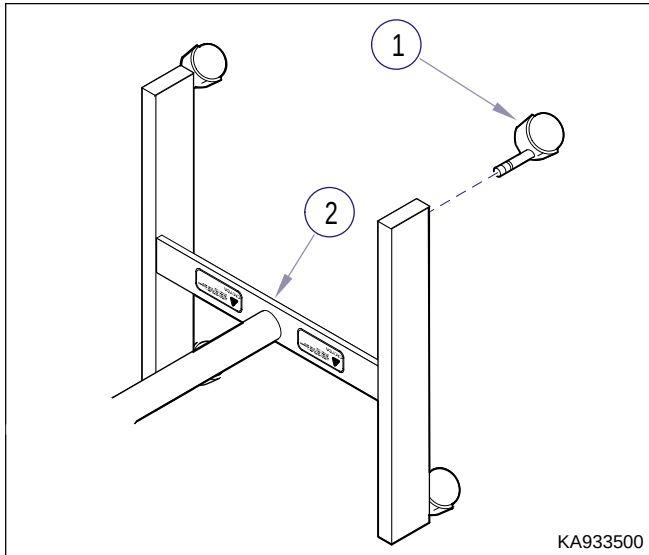

Figure 4-13. Cart Assembly Caster Removal/Installation
- (1) Disable unit for repair. (Refer to para 4.1).
- (2) Carefully lay cart on its side.
- (3) Remove caster (1, Figure 4-13) from base (2). *[Casters are pressure fit; no tools are required].*